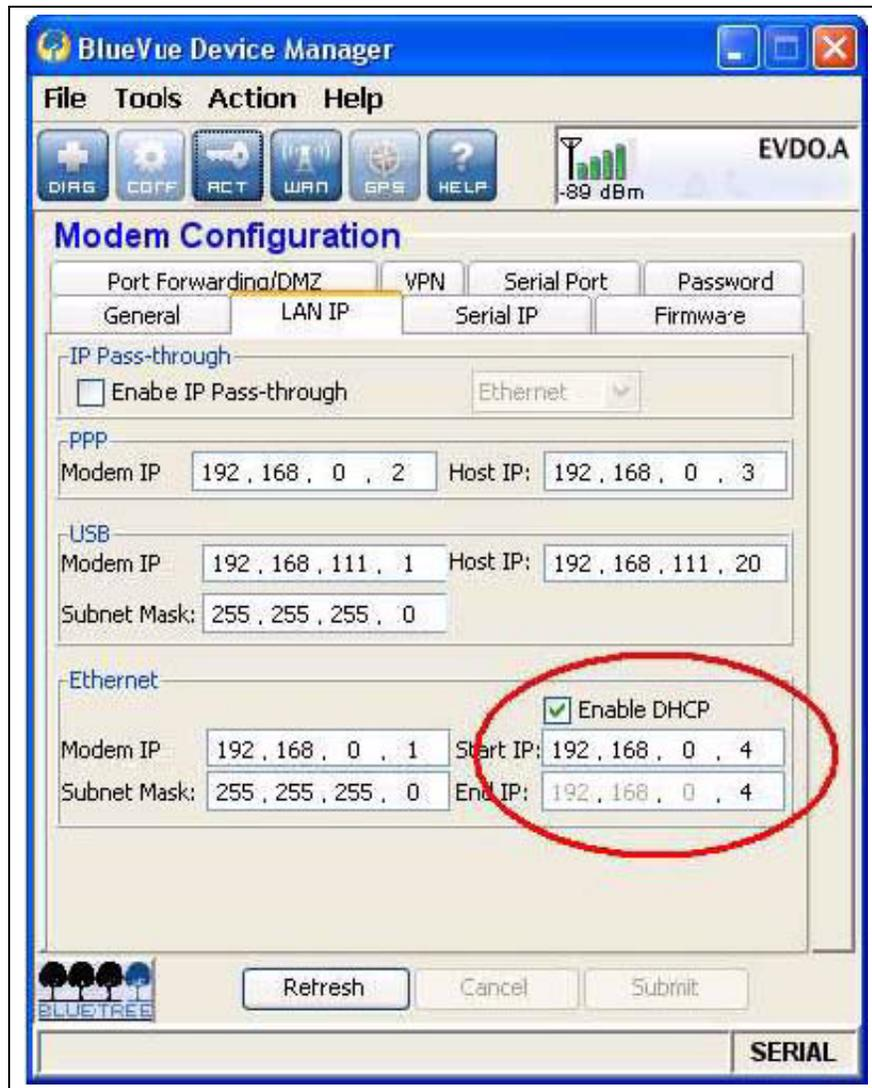

Figure 9D Enter DHCP Address Range
- Click on the LAN IP tab and the following screen should appear. (See Figure 9D.) Make sure the checkbox for DHCP is checked and the Start IP and End IP addresses are as shown below.